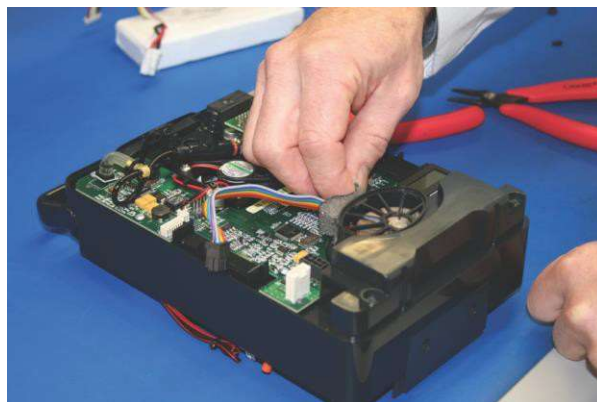

Figure 5.6
5. Remove and discard foam from the top of the oval opening. (See Figure 5.6.)